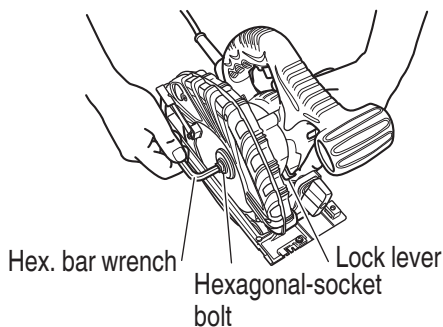

Fig. 12
- (1) Set the cutting volume at maximum, and place the Circular Saw as shown in **Fig. 12**.
- (2) Depress the lock lever, lock the spindle, and remove the hexagonal-socket bolt with the Hex. bar wrench.
- (3) While holding the lower guard lever to keep the lower guard fully retracted into the saw cover, remove the saw blade.